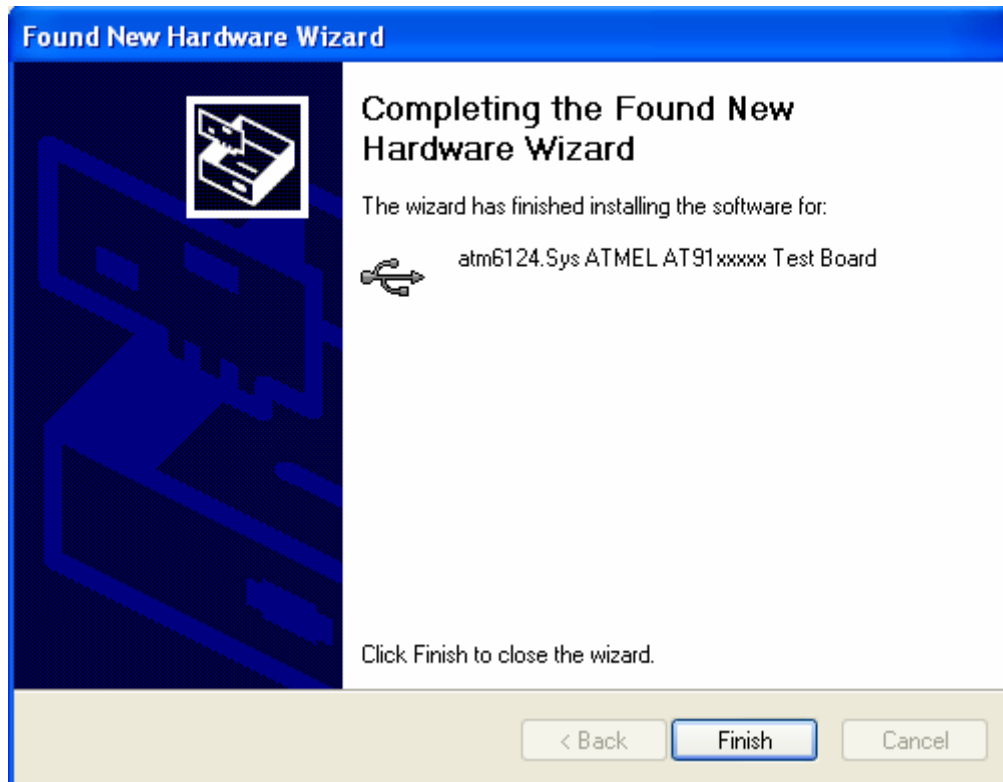

Fig. 09
Step 9: Click on “Finish” button. The installation is done. (Fig. 09)